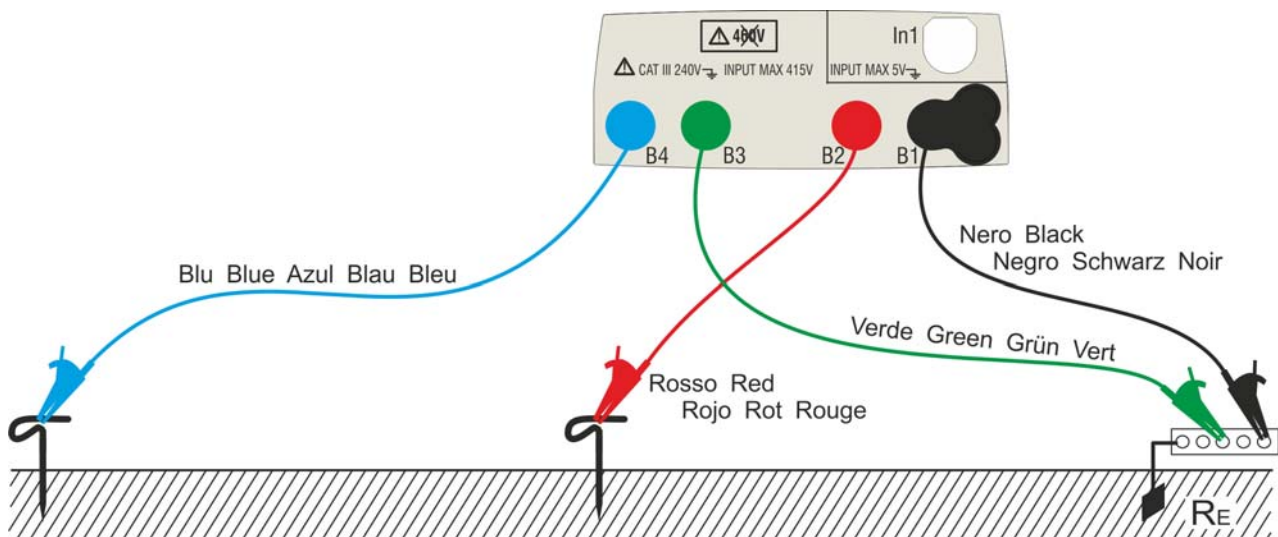
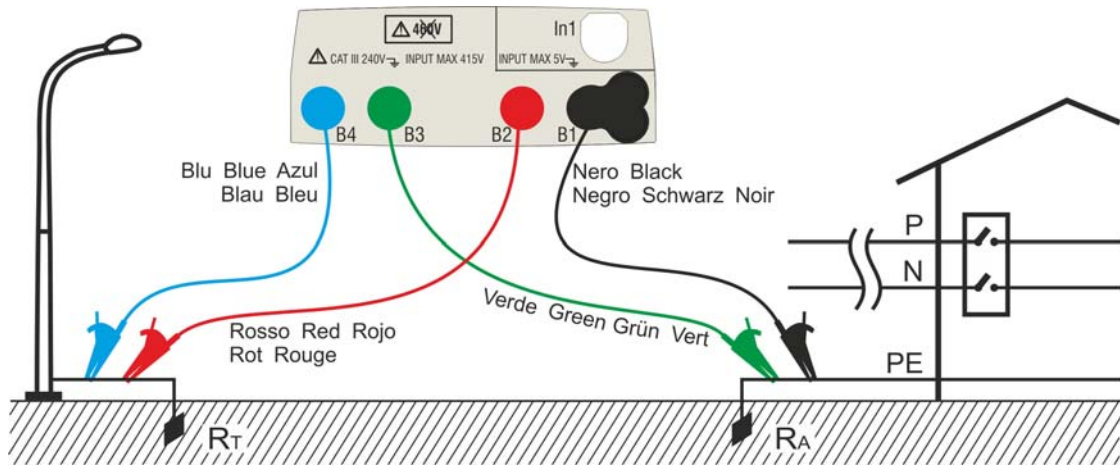
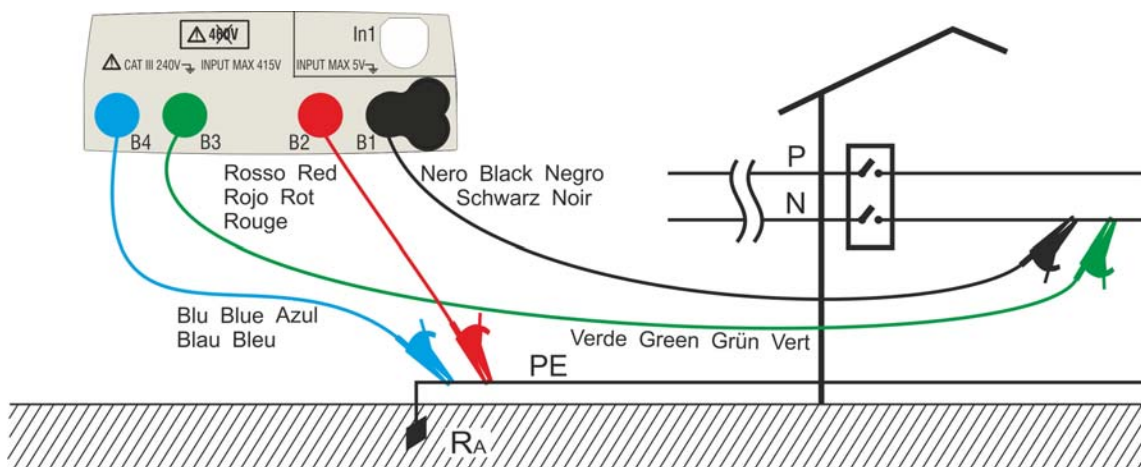

Fig. 26: Three-wire earth resistance measurement
Fig. 27: Two-wire earth resistance measurement using an auxiliary rod
Fig. 28: Two-wire earth resistance measurement from the panel board
- 12 Connect the alligator clips to the auxiliary rods and to the installation under test according to Fig. 26, Fig. 27, Fig. 28 or Fig. 29.